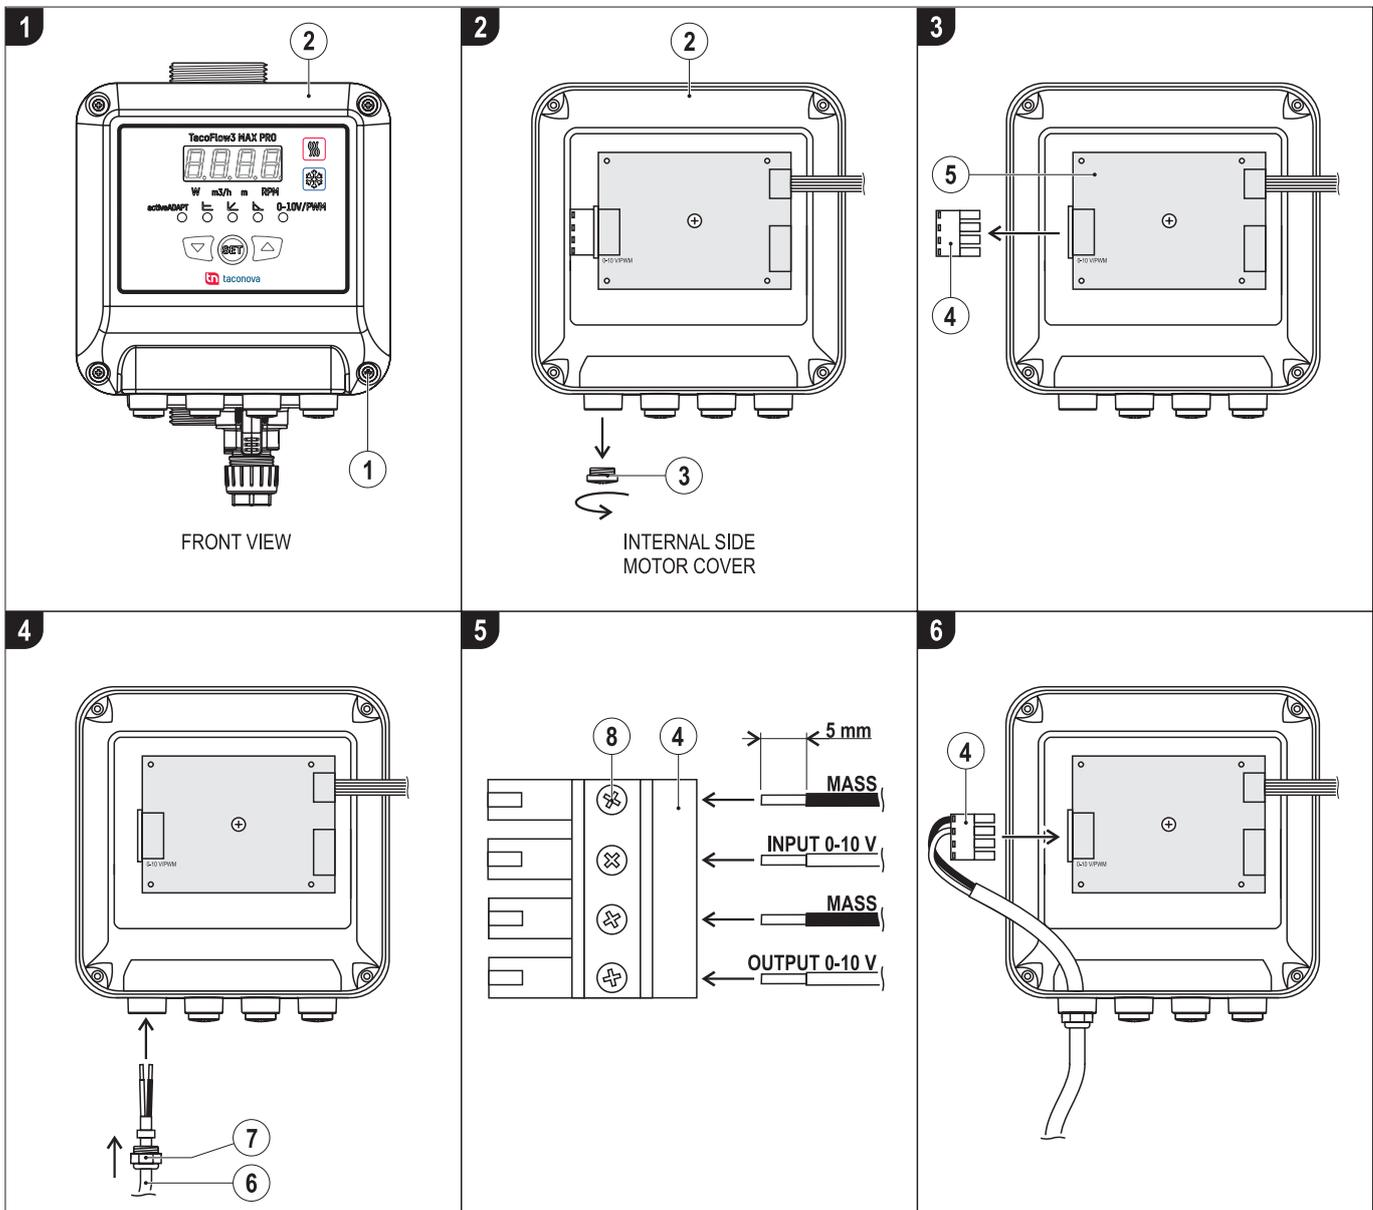

FIG. 11 (External connection for 0-10 V / PWM signal)
- 1) Unscrew the four screws (FIG. 11 - Ref. 1) fixing the motor cover (FIG. 11 - Ref. 2).
- 2) Unscrew a signal output cap (FIG. 11 - Ref. 3).
- 3) Disconnect the connector (FIG. 11 - Ref. 4) from the electronic board (FIG. 11 - Ref. 5).
- 4) Insert the cable (FIG. 11 - Ref. 6) in the cable gland M12x1.5 (FIG. 11 - Ref. 7) (not supplied) and screw it to the cover.
- 5) Strip (MIN. 5 mm) the ends of the wires, insert them into the connector (FIG. 11 - Ref. 4) and fix them with screws (FIG. 11 - Ref. 8).